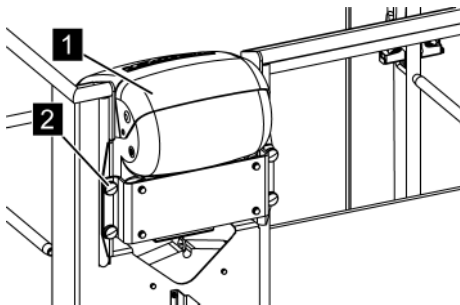

Fig. 106: Removing the control panel
2. ➔ Remove the control panel (Fig. 106/1) from the working basket. To do this, unscrew the knurled thumb screws (Fig. 106/2) on both sides and lift up the control panel.